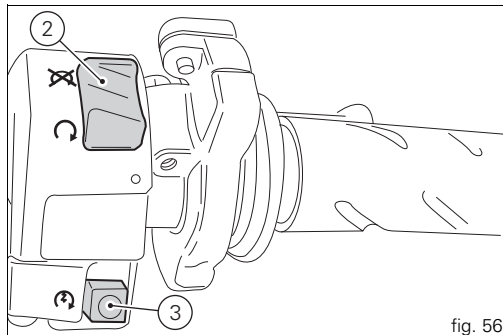

fig. 56
- 2) Check that the stop switch (2, fig. 56) is positioned to  (RUN), then press the starter button (3, fig. 56).